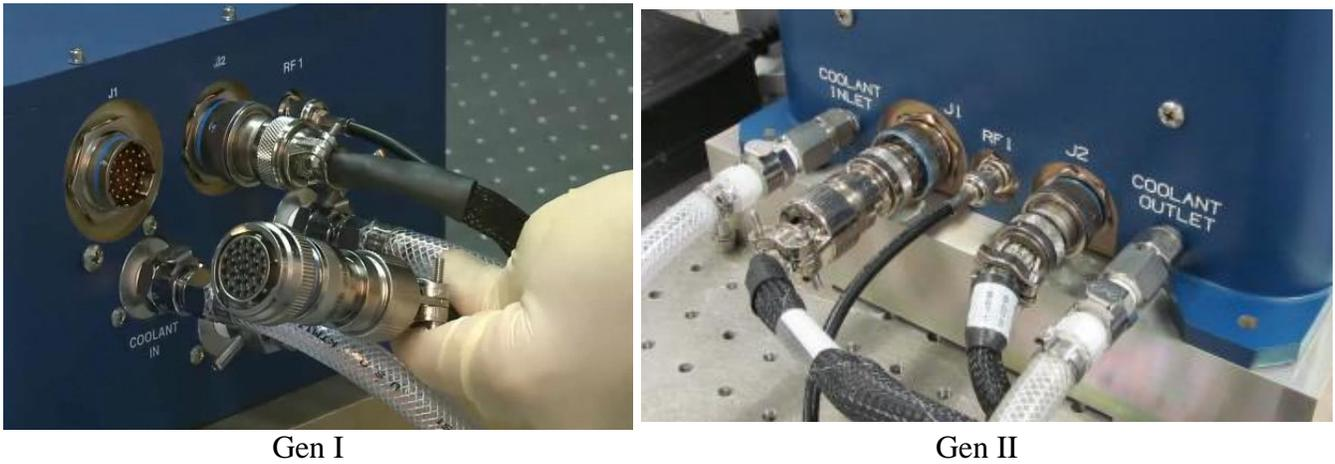

Figure 4-9. Signal Connection
4. Connect laser signal. Align the female connector of the laser signal cable to the **J1** connector on the laser head. Once it is aligned, the connector can be pushed in. Turn the locking ring of the connector in the clockwise direction until it is locked as shown in **Figure 4-9**.